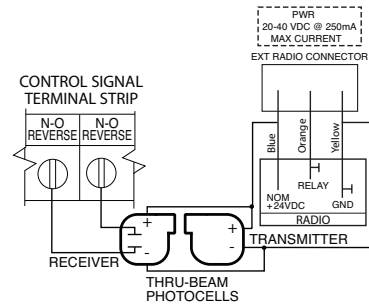

Figure 8
- 1) Nominal 24 Volt DC Commercial photocells with normally open contacts can be connected as shown in **Fig. 8**.